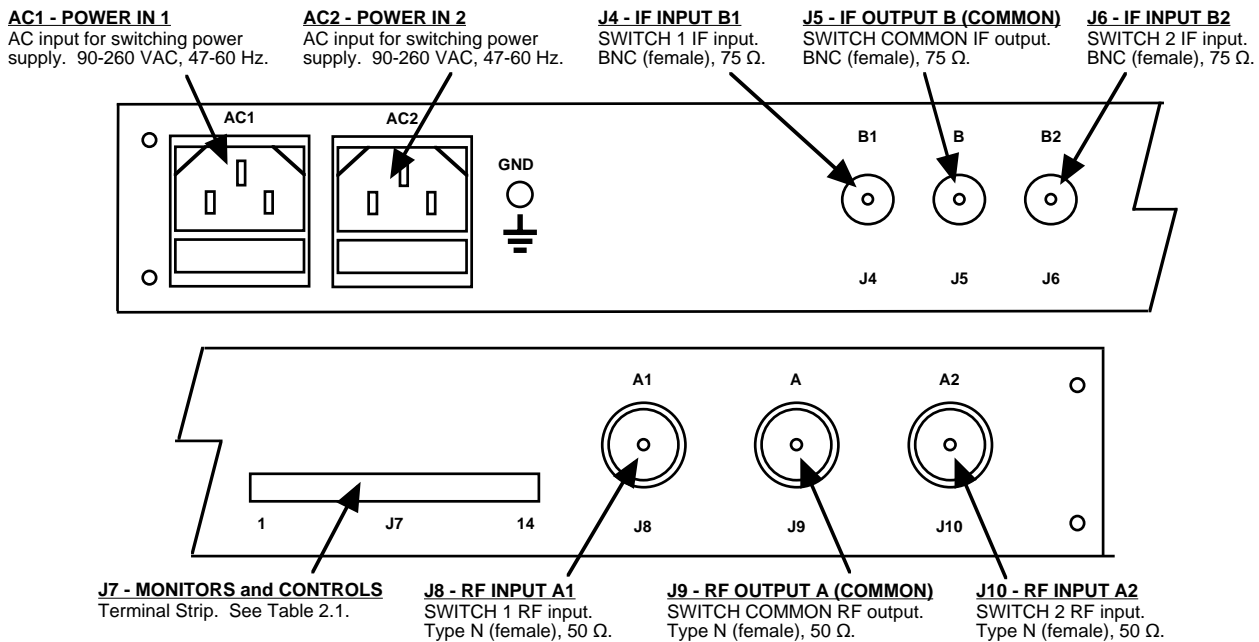

FIGURE 2.2 1582-652 RF Switch Rear Panel Inputs/Outputs
Figure 2.2 shows the input and output connectors on the rear panel.
4. Connect to signals on the MONITORS AND CONTROLS connector, J7, as desired (see Figure 2.2, Table 2.1).